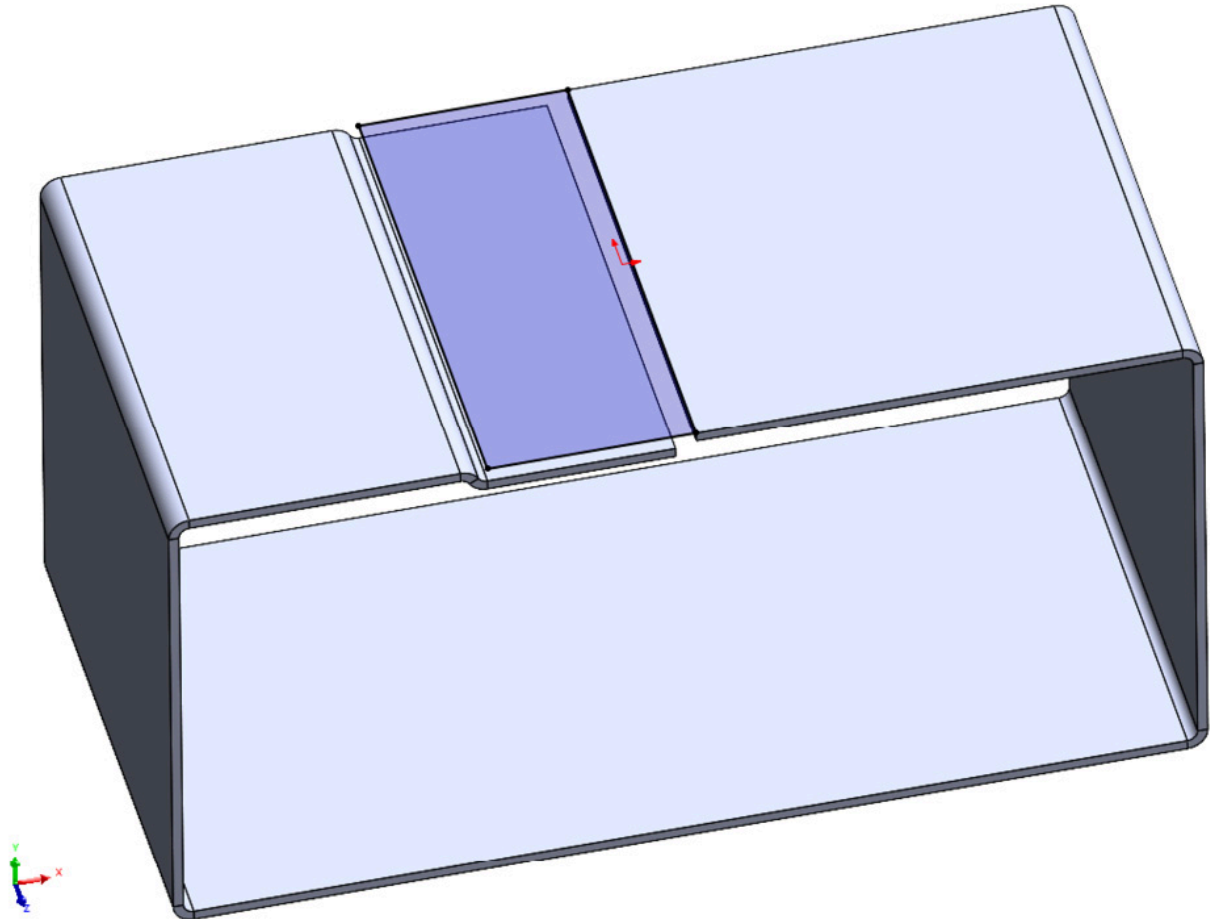

Figure 3.31: Sketching a closed profile on the top face of the flange
13. Use the **Rectangle** tool to draw a closed profile that overlaps the **Jog** area (*Figure 3.31*).